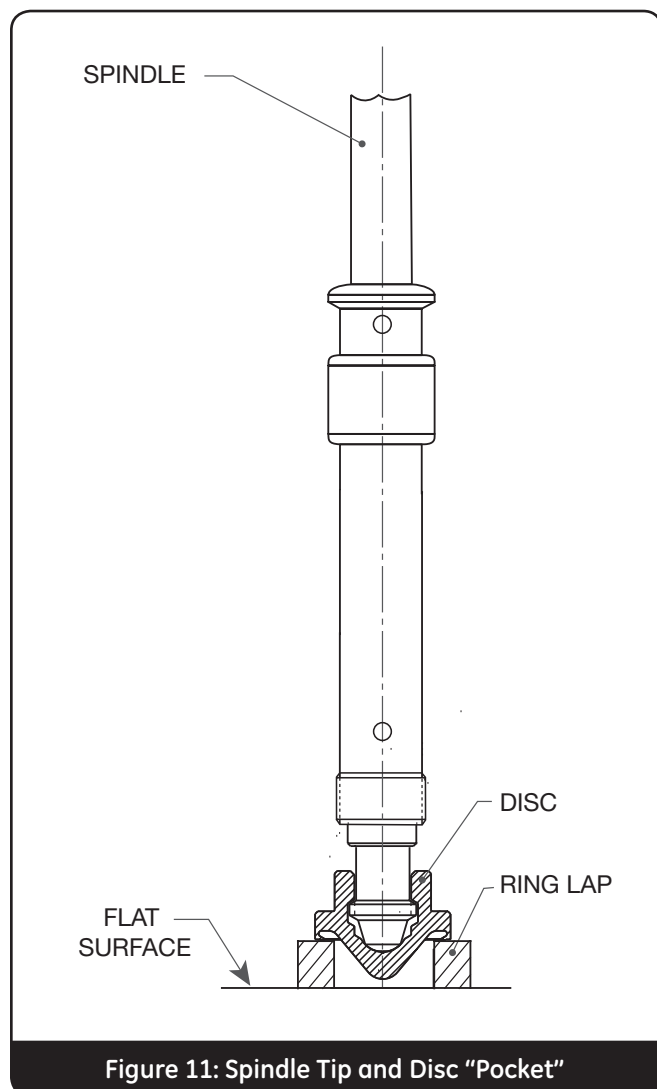

Figure 11: Spindle Tip and Disc "Pocket"
- using 360-degree oscillations for approximately 15 seconds, then check the spindle tip and disc "pocket" to determine progress. (See Figure 11.)